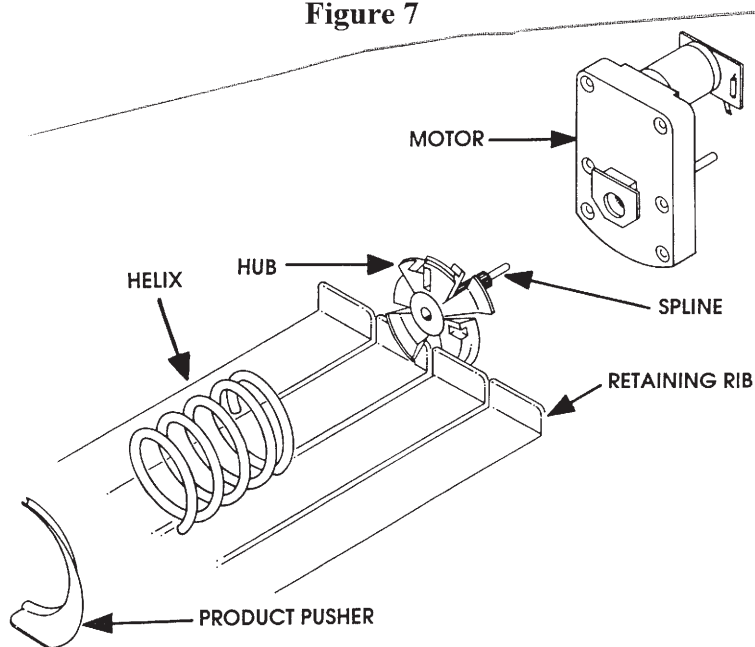

Figure 8
4. Lift the helix and motor slightly (approximately 3/4") to disengage the helix hub from its retaining rib in the bottom of the tray. See Figure 8.